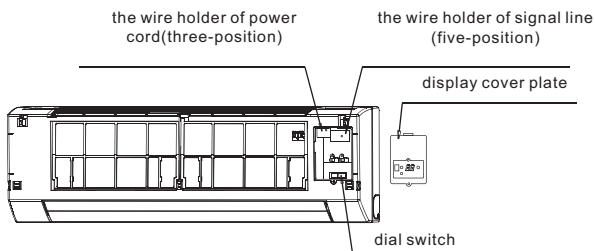

Fig. 7-2
- 2 Individual connect the power cord and signal line, adjust the dial switch. (Refer to Fig 7-2)